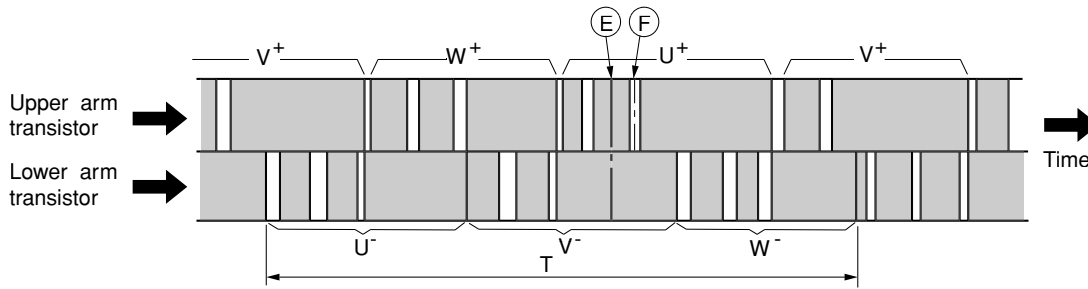

Fig. 9-2 Switching order of power module
The switching order is as shown in Fig. 9-2.
Time T in Fig. 9-2 shows the switching period, and relation with rotation speed (N) of the compressor is shown by formula below;